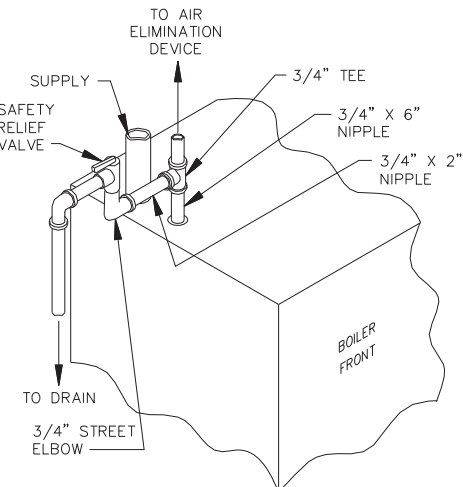

Figure 3.4: Safety Relief Valve Hook-Up with Air Elimination
3. For air elimination at the safety relief valve tapping, install valve and piping as shown in Figure 3.4.